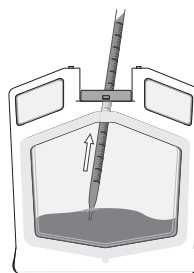

Figure 6 Remove the sample.
3. Using an appropriately sized serological pipette, retrieve the sample by slowly aspirating while inserting pipette toward bottom of the cassette (Figure 6).